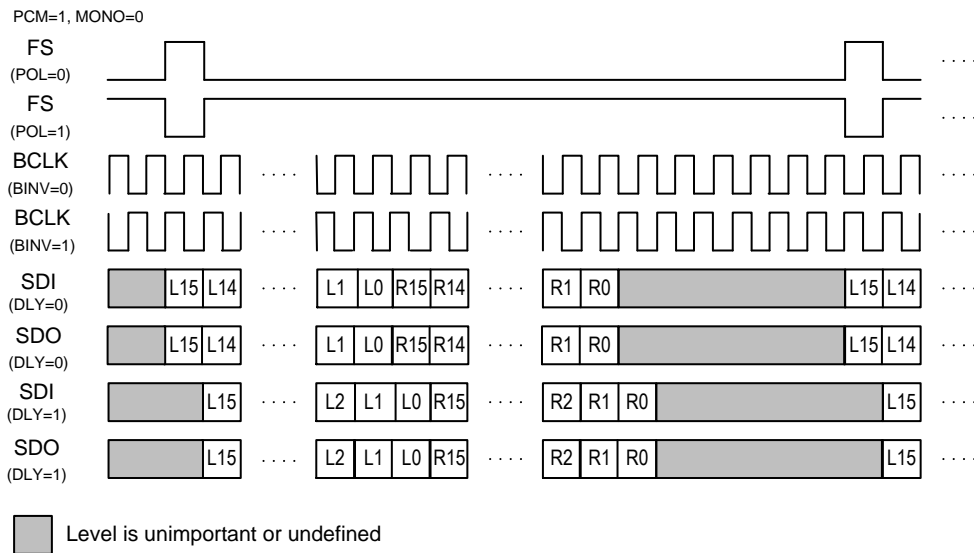

Figure 47 PCM Mode Dual-channel Data Transfer
The PCM Mode is a common interface protocol compatible with standard DSP devices for transferring PCM data. A frame sync signal (FS) is used to indicate the audio sample rate and serial data is transferred using a left-justified format. The FS signal is a single BCLK period wide and the MSB of left channel serial data may be configured to be transferred in the first or second cycle following the FS transition. When transferring two channels, the left channel data is first transferred followed by the right channel data. When transferring two channels, BCLK must have a frequency of at least 32xLRCLK for 16-bit signed audio data or at least 16xLRCLK for companded audio data. When transferring a single channel, BCLK must have a frequency of at least 16xLRCLK for 16-bit signed audio data or at least 8xLRCLK for companded audio data. Figure 47 shows an example 2-channel 16-bit PCM mode transfer with different configuration parameters.